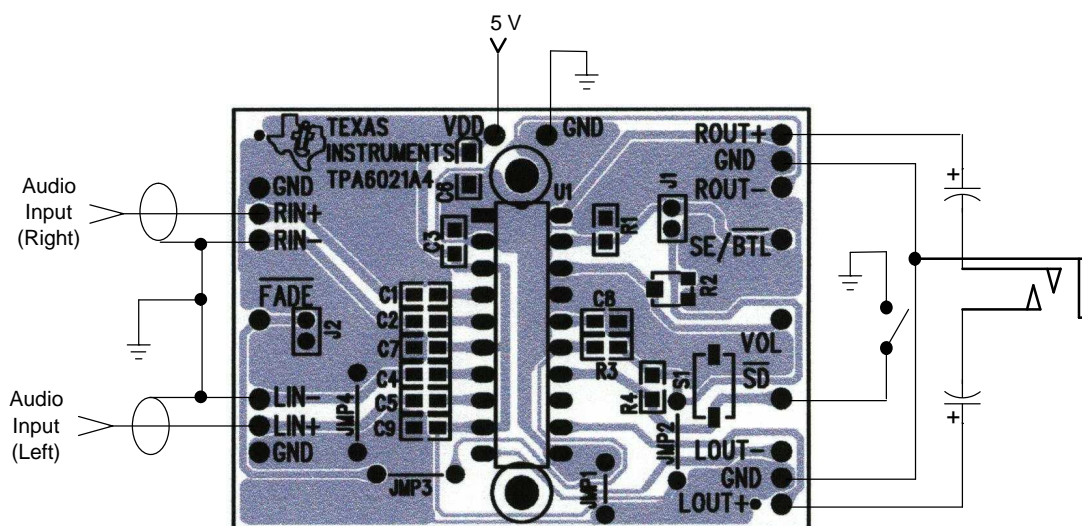

Figure 3. TPA6021A4 EVM Connected for Stereo Single-Ended Output
- b. For single-ended output, connect a headphone or a speaker to the module OUT+ and GND pins of each channel through a 33- μ F to 1000- μ F output-coupling capacitor (see Figure 3).
- a. **SE/BTL**: A high selects the single-ended (SE) output mode; a low or float selects the bridge-tied load (BTL) output mode.